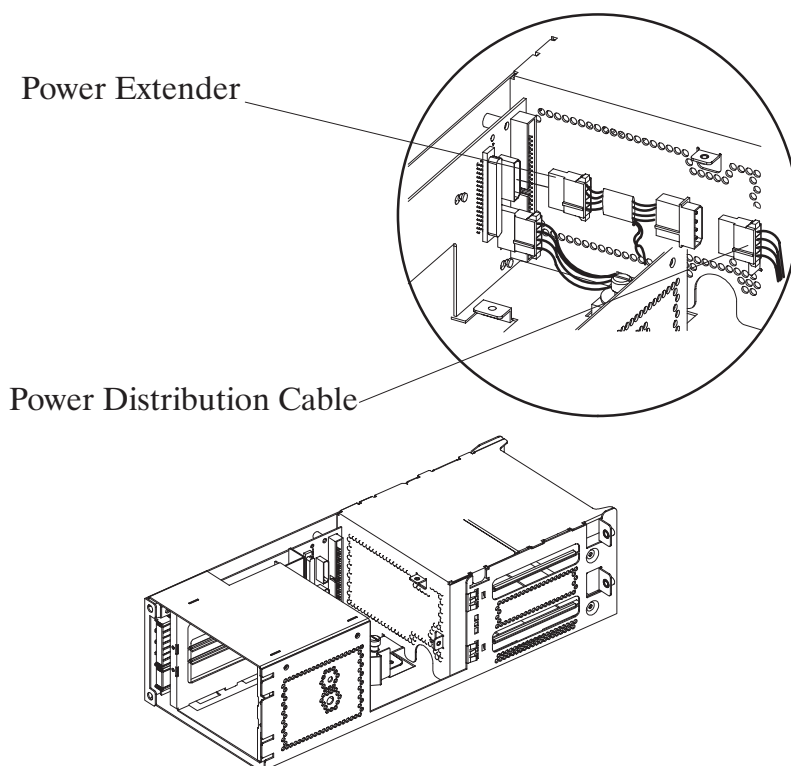

Figure 5-46. Disconnecting the Power Distribution Cable
9. Disconnect the power distribution cable from the SCSI Disk PCA as shown in Figure 5-46.